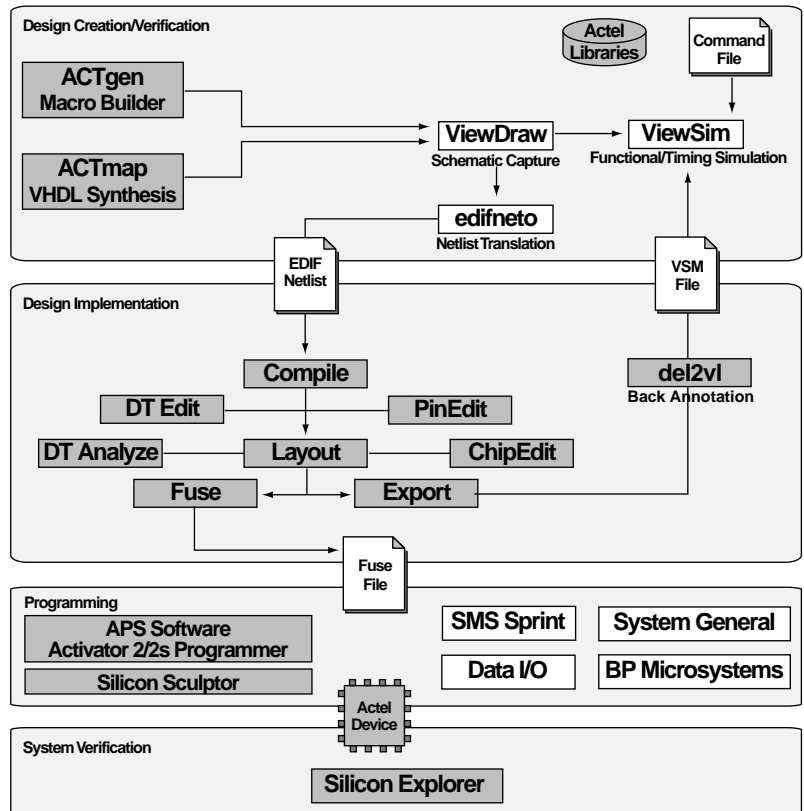

Figure 2-1. Actel-Viewlogic Schematic-Based Design Flow
Figure 2-1 shows the schematic-based design flow for creating an Actel device using the Powerview and Designer Series software1.
1. Actel-specific utilities/tools are denoted by the grey boxes in Figure 2-1.